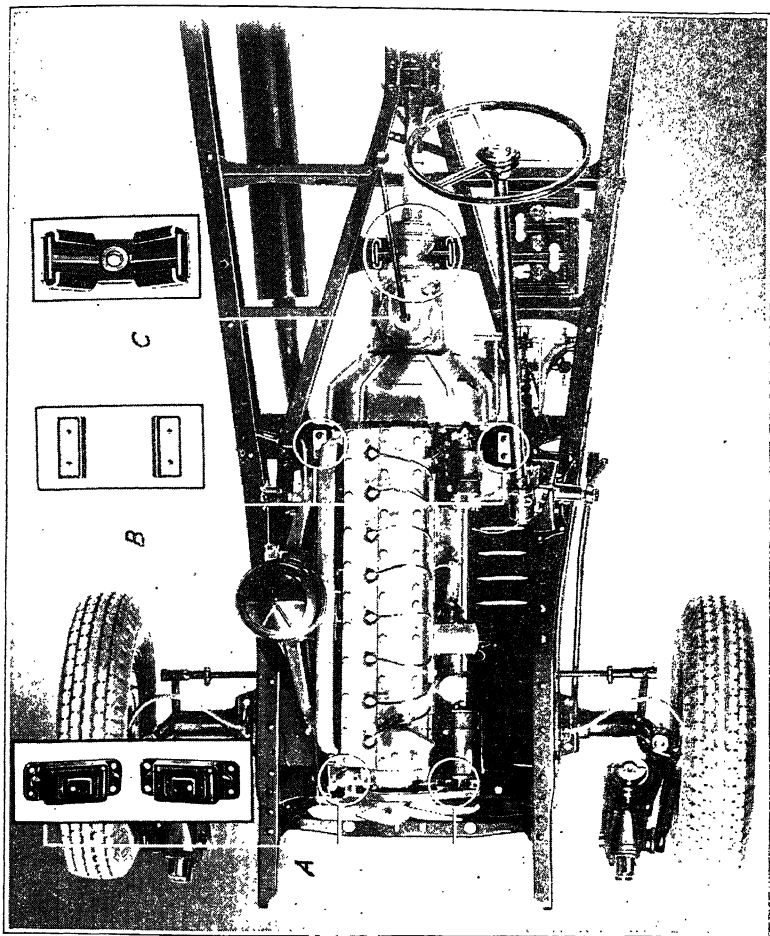

Fig. 31. 1935 Pontiac Power Plant Mountings Which Absorb Torque Reaction and Vibration
**Pontiac Engine Mounting.** The five rubber engine mountings used on the 1935 Pontiac automobile are illustrated in Fig. 31. The engine is shown moved forward over the front axle, approximately five inches. The tendency of an engine